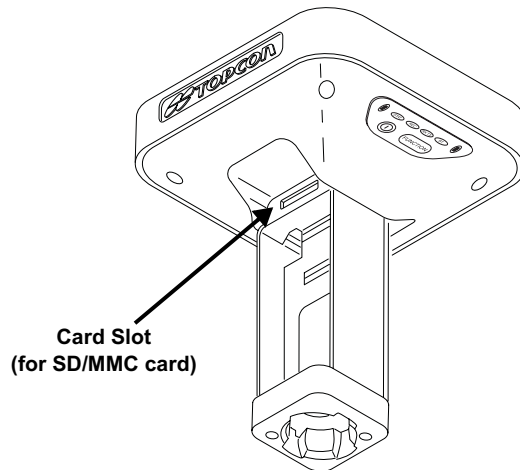

Figure 1-9. GR-3 Card Slot Example
**The SD/MMC card slot** is located to the left of the MINTER inside the battery pocket (Figure 1-9) and connects an optional SD/MMC card to the receiver board to provide memory. Once installed, the SD/MMC card usually remains inside the receiver. The data that resides on the SD/MMC card can be accessed via the USB or serial port, or Bluetooth wireless technology. A secure digital card can be purchased at your local computer supply store.